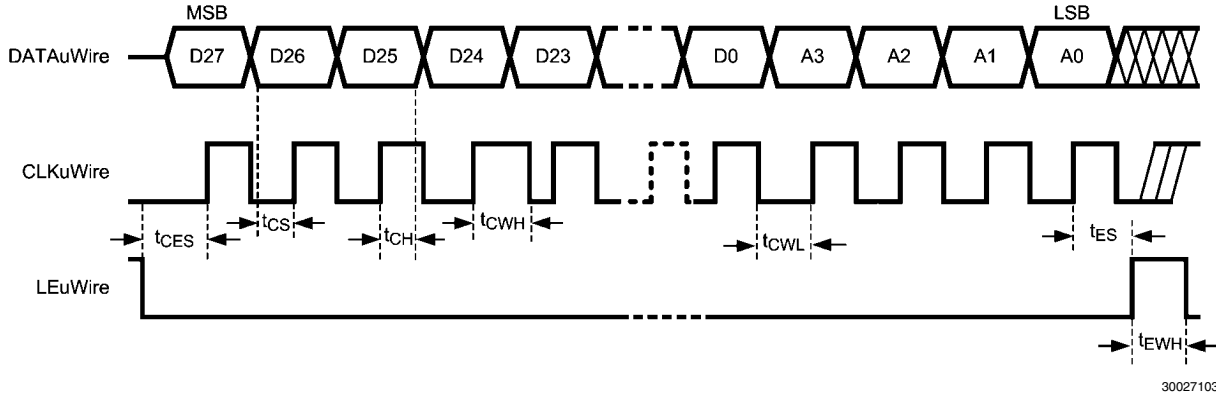

FIGURE 2. uWire Timing Diagram
31), and the LSB (bit 0) last. During programming, the LE signal should be held LOW. The serial data is clocked in on the rising edge of the CLK signal. After the LSB (bit 0) is clocked in the LE signal should be toggled LOW-to-HIGH-to-LOW to latch the contents into the register selected in the address field. Registers R0-R4, R7, and R8-R15 must be programmed in order to achieve proper device operation. *Figure 2* illustrates the serial data timing sequence.